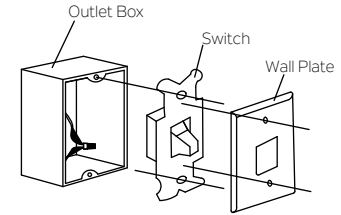

Fig. 22
Step 1. Remove the existing wall plate and the old switch from the wall outlet box. Wire nut the BLACK leads (hot) together and push back inside the outlet box. (Fig. 22) Or Select the desired location with a new wall outlet box.